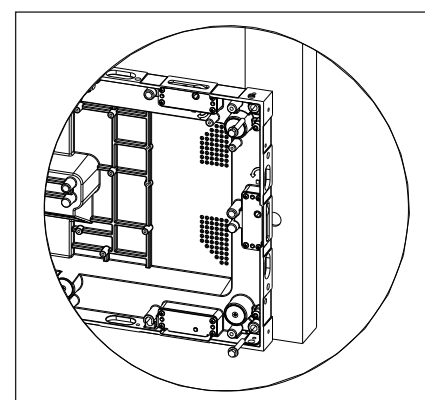

Figure 20: Secure Panel to Tubes
- Secure the panel to the tubes through all four corner mounting locations. Refer to **Figure 20**.